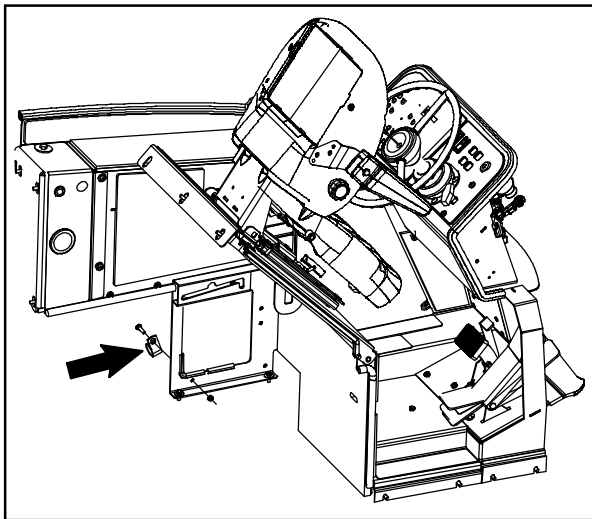
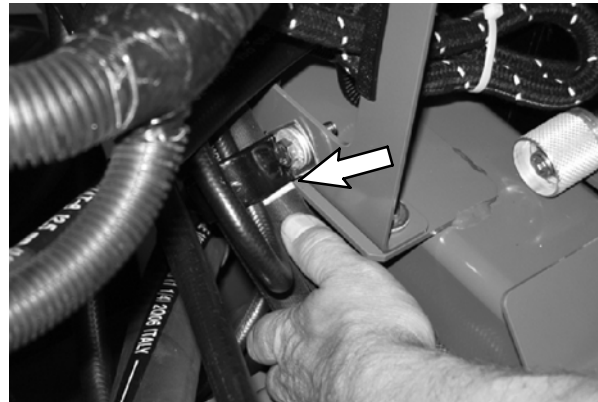

FIG. 11
FIG. 12
3. Lift the operator seat and remove the LPG tank (if machine is equipped with LPG fuel system) to access the hose clamp located on the inner side of the operator compartment. Refer to Fig. 11.
4. Slightly loosen the hose clamp and reposition the hydraulic propel hose so the yellow line on the hose is positioned either 1" above or below the clamp. Refer to Fig. 11 and Fig. 12.
5. Retighten the hose clamp loosened in the previous step. Refer to Fig. 11 or Fig. 12.